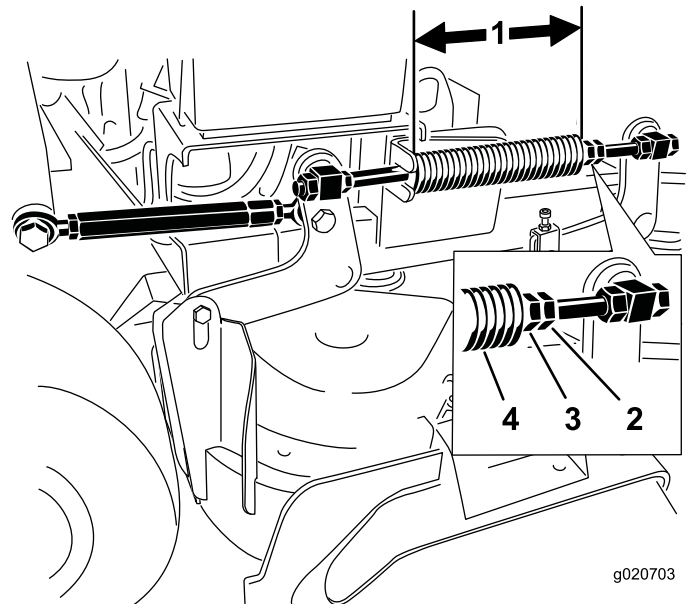

Figure 87
Note: Nominal length is 28.2 cm (11-1/8 inches) for 91 cm (36 inch) mower decks and 25.7 cm (10-1/8 inches) for 102 cm (40 inch) mower decks (Figure 87).
3. Adjust this distance, by loosening the spring-jam nut and turning the nut in front of each spring (Figure 87).
4. Lock the nut into position by tightening the spring-jam nut (Figure 87).